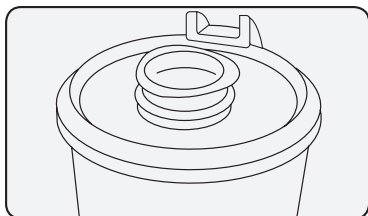

Figure 4
3. To prevent heat loss during cooking (Figure 4). You can add liquid to the jug with the measuring cup positioned on the lid.